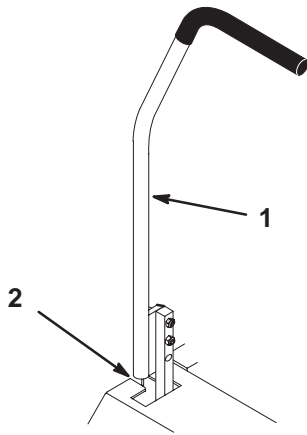

Figure 50
2. Begin with either the left or right motion control lever. Move lever to the neutral (but not locked) position and pull lever back until the clevis pin (on arm below pivot shaft) contacts the end of the slot (just beginning to put pressure on spring) (Fig. 50).
3. Check where lever is relative to notch in console (should be centered allowing lever to pivot outward to the neutral lock position (Fig. 50).